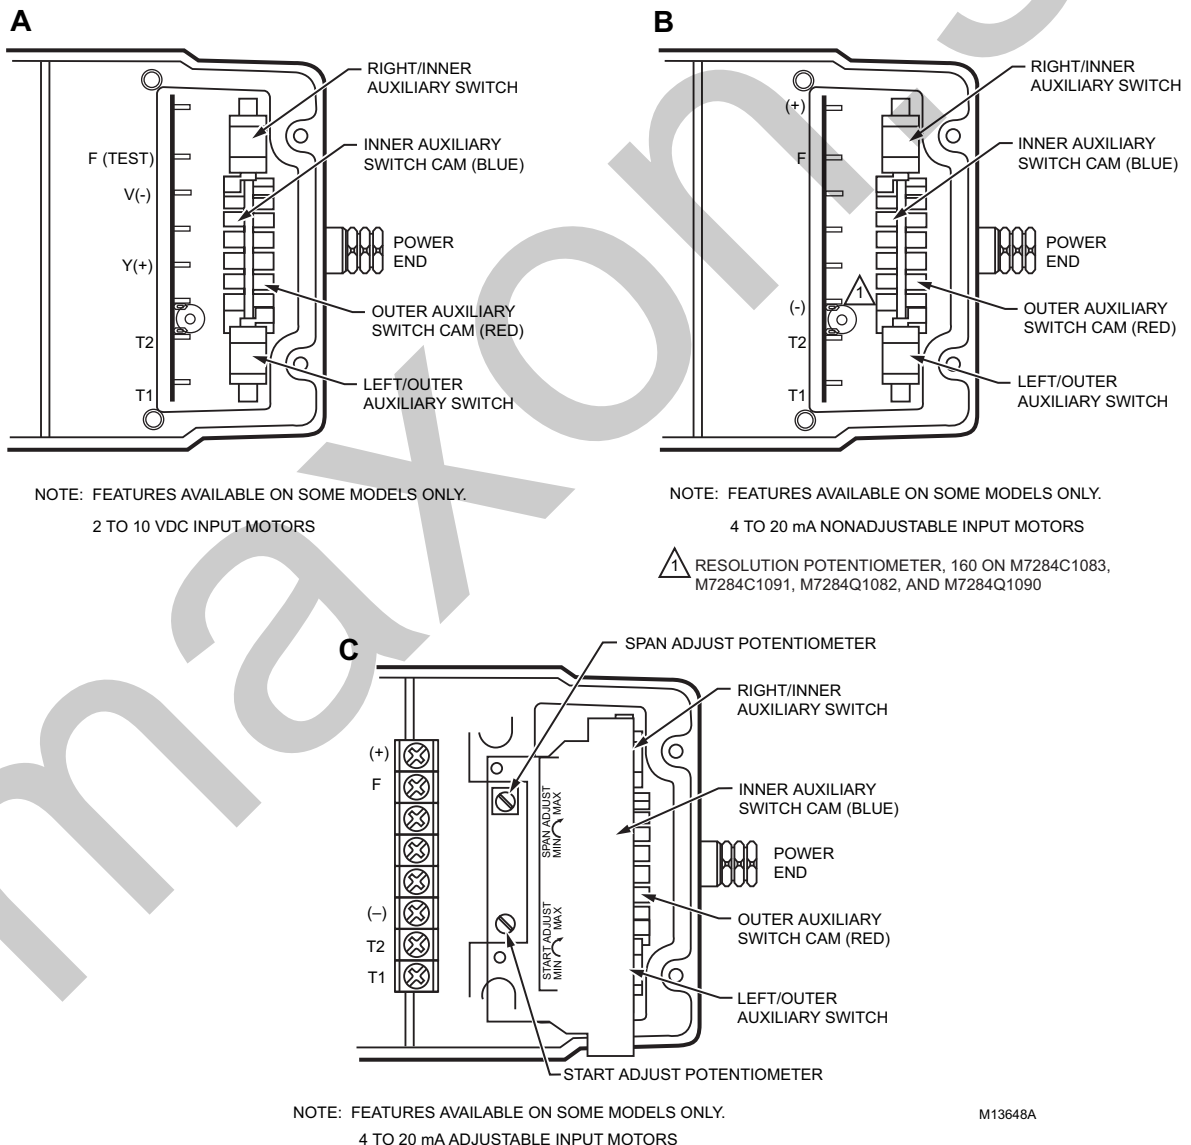

Fig. 10. Terminals and adjustments.
3. Fig. 10 shows that motor terminals are quick-connects located on top of the printed circuit board.
M7284Q, M7285Q, and M7294Q actuators have the capability of adjustable zero and span. Fig. 10 shows the module with the zero and span potentiometers.
1. Adjust the start potentiometer fully clockwise (maximum zero) and the span potentiometer fully counterclockwise (minimum span). See Fig. 10.